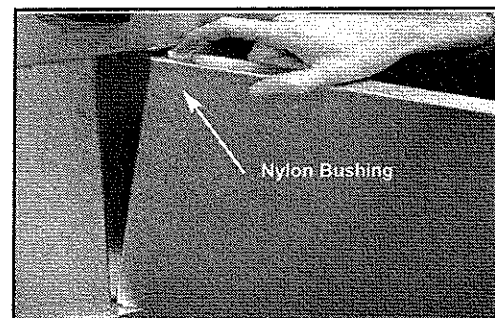

Fig. 17
1. While holding the door line up the bottom hole on the door with the bolt sticking up through base of cart. Next place a nylon bushing onto the top pin, then depress the pin and insert into the hole in the bottom of the grill. (See Fig. 17)